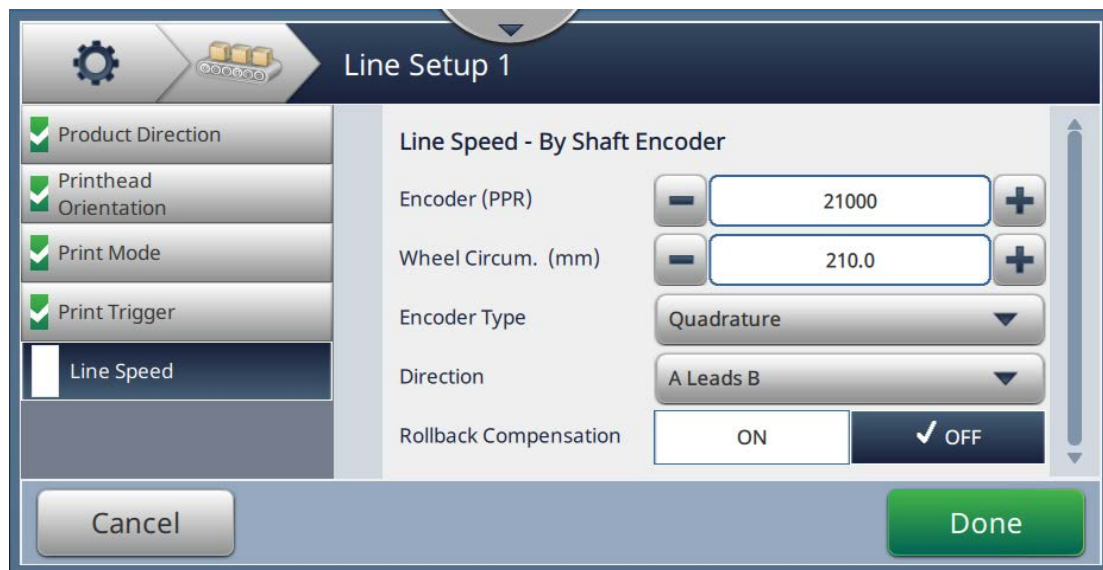

Figure 6-37: Line Speed - Measured by Shaft Encoder
2. Change the required parameters on the Setting screen as shown in Figure 6-37.